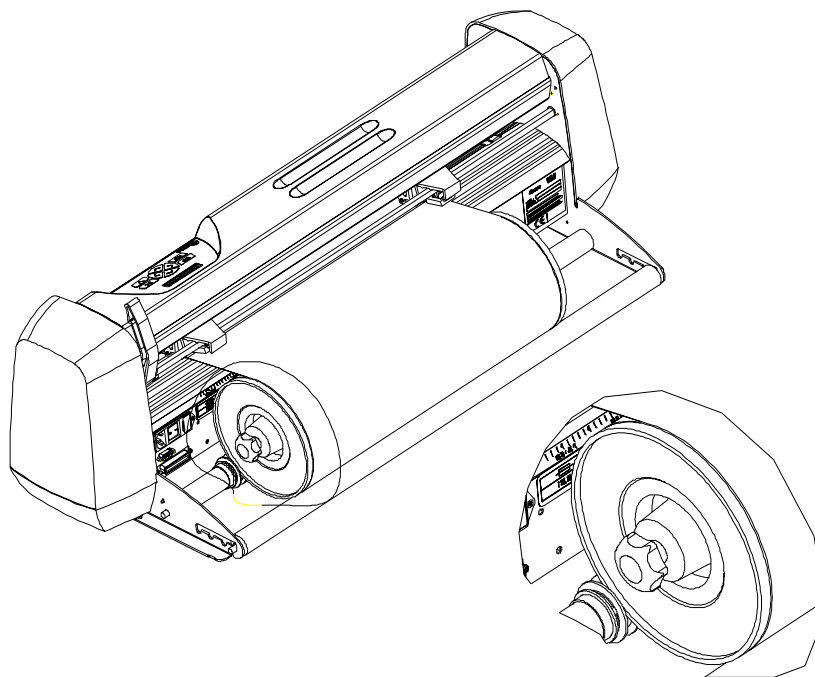

FIGURE 1-5
5. Feed the media from the rear of the Gerber P2C 1200 (see Figures 1-5 and 1-6).